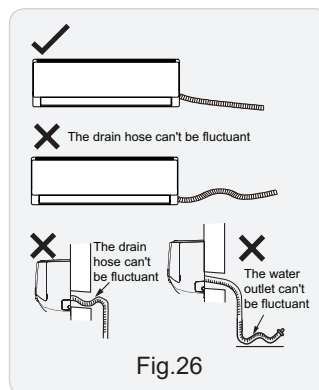

Fig.26
- (2) Slant the drain hose slightly downwards. The drain hose Can't be curved, raised and fluctuant, etc.(As show in Fig.26)